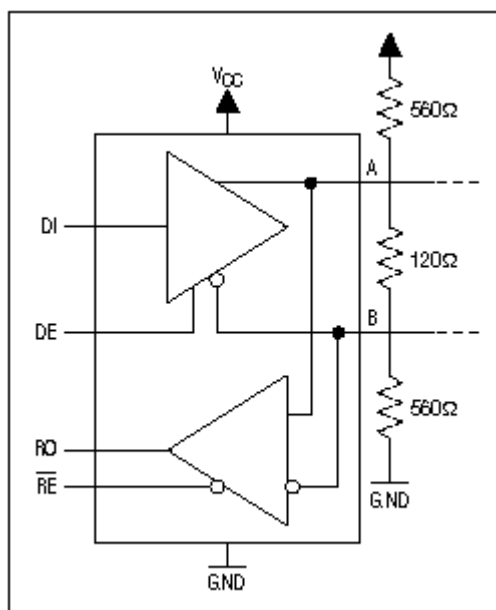

Figure 1. Three external resistors form a termination and failsafe biasing network for this RS-485 transceiver.
For RS-485 receiver inputs between -200mV and +200mV, the output is undefined. That is, if the differential voltage on the RS-485 side of a half-duplex configuration is 0V, and no master transceiver is driving the line (or a connection has come loose), then a logic "high" output is as probable as a logic "low." To ensure a defined output under these conditions, most of today's RS-485 transceivers require failsafe bias resistors: a pullup resistor on one line (A) and a pulldown on the other line (B), as shown in Figure 1. Historically, the failsafe bias resistors on most schematics were labeled 560Ω , but to reduce power loss (when terminating one end only) this value can be increased to approximately $1.1k\Omega$. Some designers terminate both ends with resistor values between $1.1k\Omega$ and $2.2k\Omega$. The trade-off is noise immunity versus current draw.